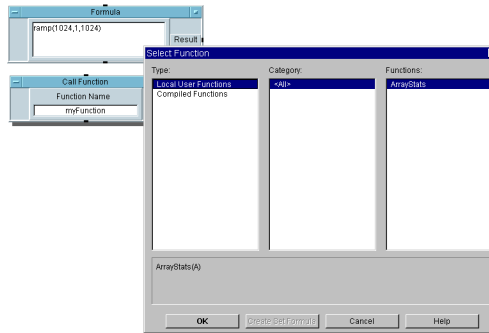

Figure 7-2. Configuring the Pins for Call myFunction
4. Click Device $\Rightarrow$ Call, open the object menu, and click Select Function as shown in Figure 7-2. Then click OK. Notice that VEE renames the object automatically and adds the correct pins.